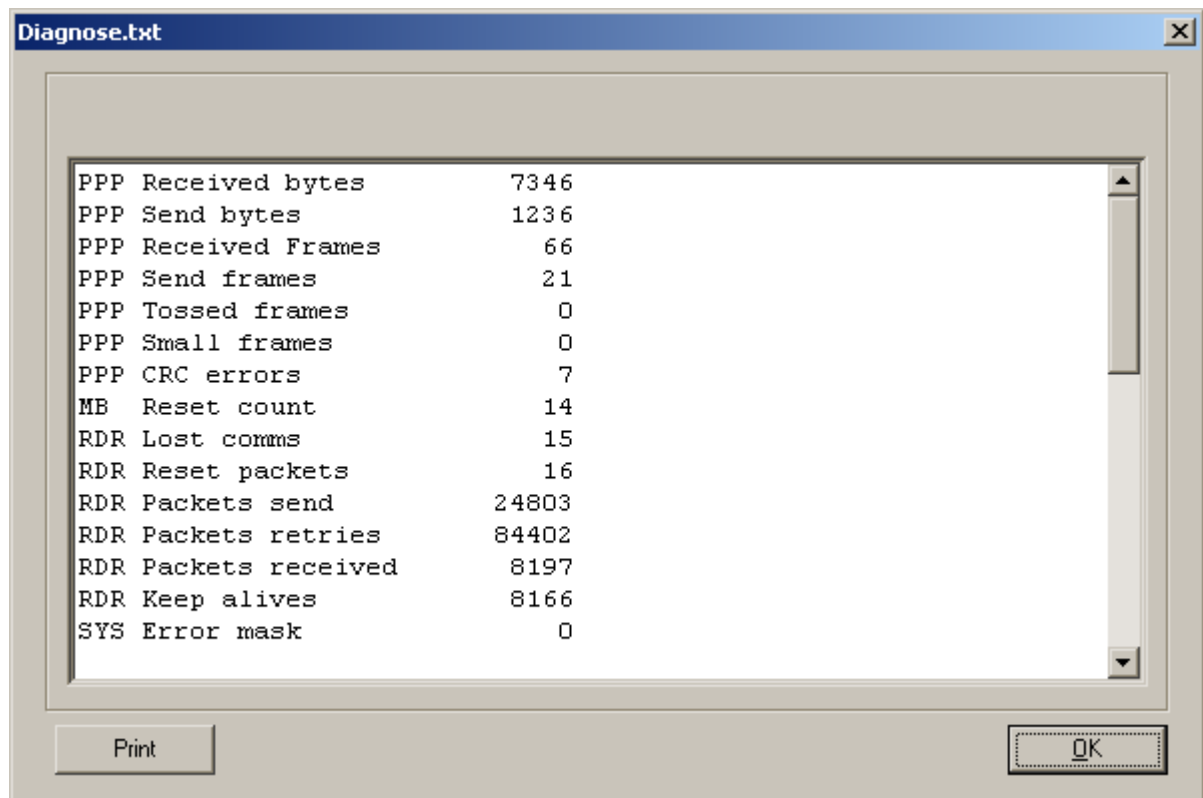

Figure 4-6 The result screen of the action button **Diagnose**
5. Click **Diagnose**. You will see the contents of the file 'diagnose.txt' that is read from the Magnabox of the selected terminal (Figure 4-6). If there is no active network connection with the terminal you will see the message 'Cannot access this terminal'.